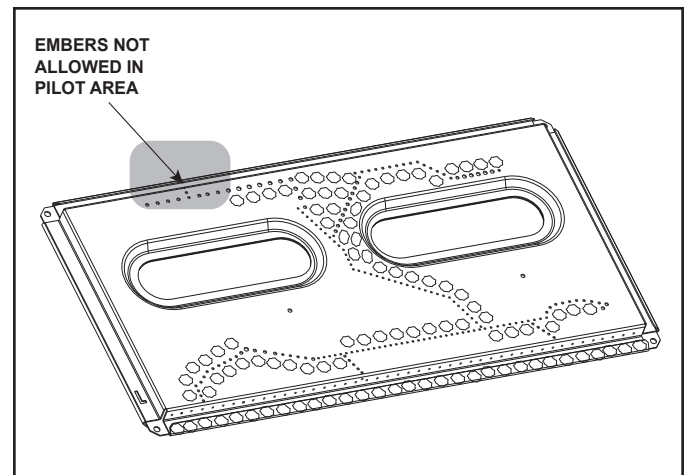
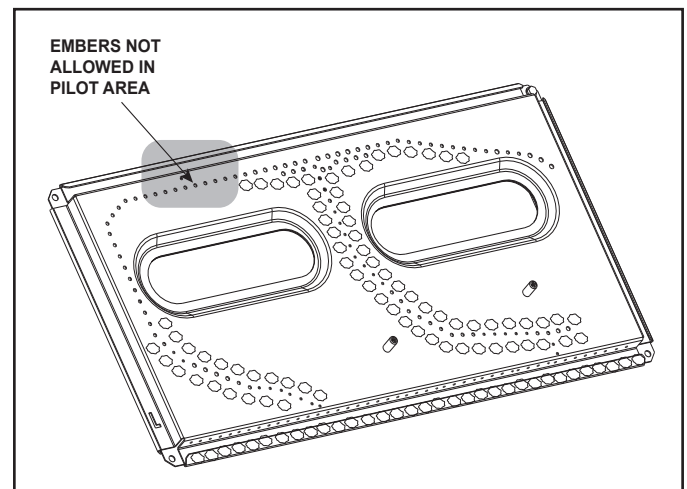

Figure 11.7 Placement of Embers (QFI30FB-IFT)
Figure 11.8 Placement of Embers (QFI35FB-IFT)
- Place dime-size pieces of Glowing Embers® just in front of the port trail, but not on or in between the ports. See Figure 11.7 (QFI30FB-IFT) or Figure 11.8 (QFI35FB-IFT). Care should be taken so that the ports are not covered. Failure to follow this procedure will likely cause lighting and sooting problems.